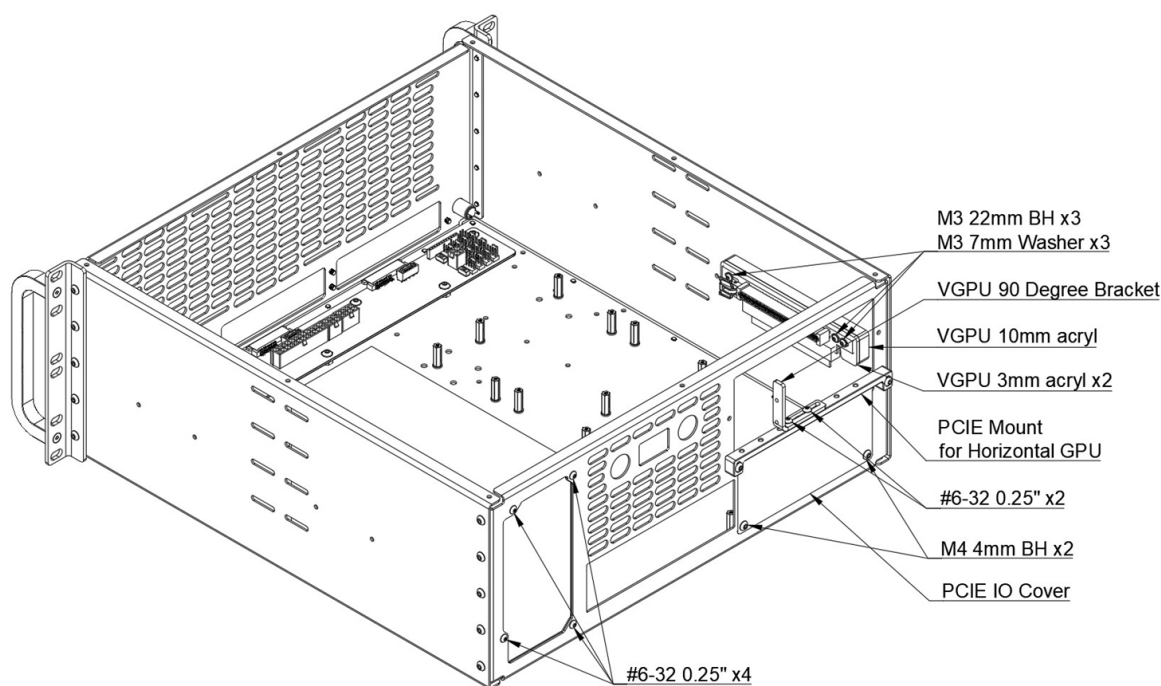

Figure 3
- **Step 5A:** If a horizontal GPU mounting kit is used with a riser cable, then install the PCIe Mount in the bottom position on the rear panel and secure it with M4 14mm BH x2 according to Figure 3. Then install the VGPU 90 Degree Bracket with #6-32 0.25" x2 in the position shown. This can be adjusted horizontally.